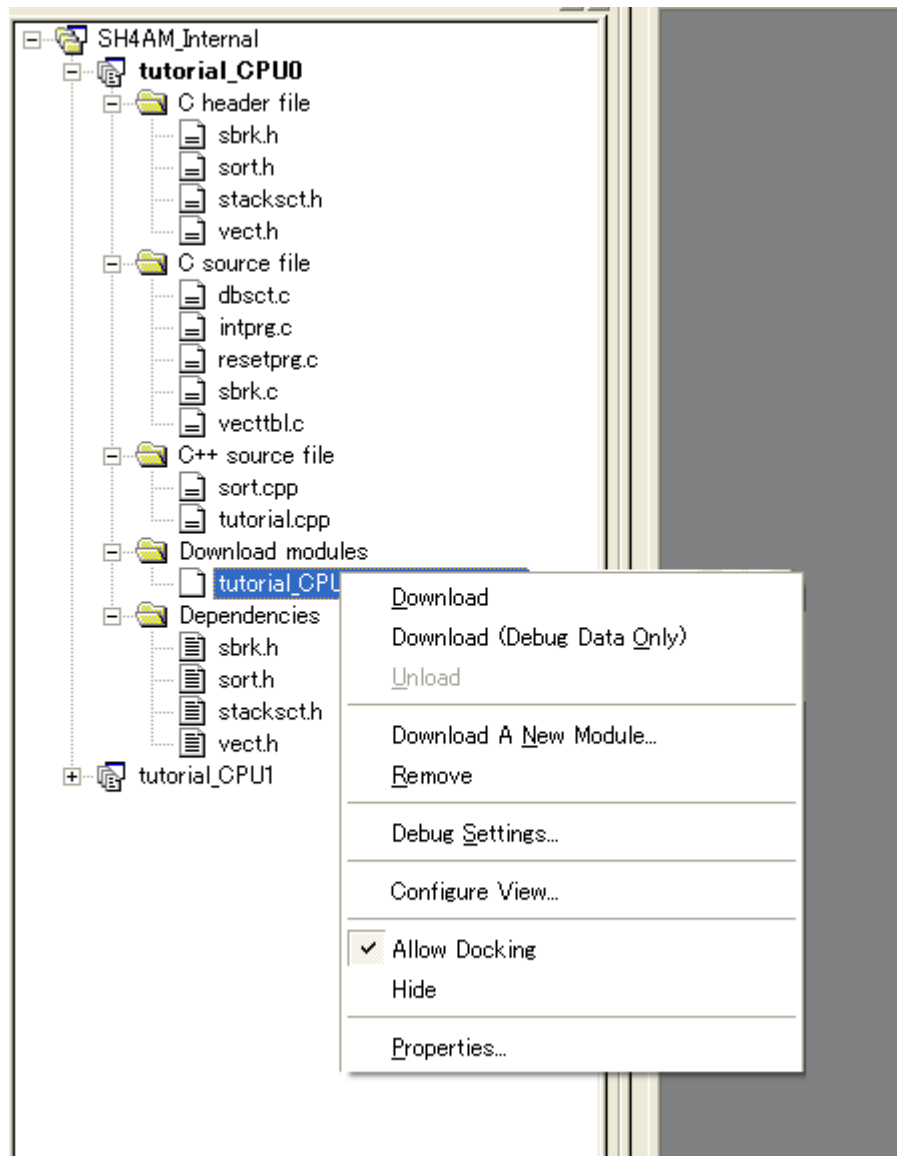

Figure 7.8 Downloading the Tutorial Program
2. If program execution is failed, select [Reset CPU] from the [Debug] menu, reset the device, and restart the procedure from figure 7.8.